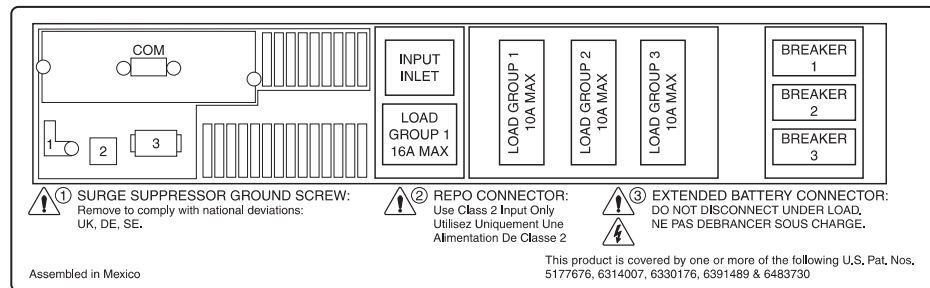

Figure 7. Rear panel configuration label
2. Rear panel configuration. See Figure 7 is installed on the cover of the power supply of the SAN Volume Controller.